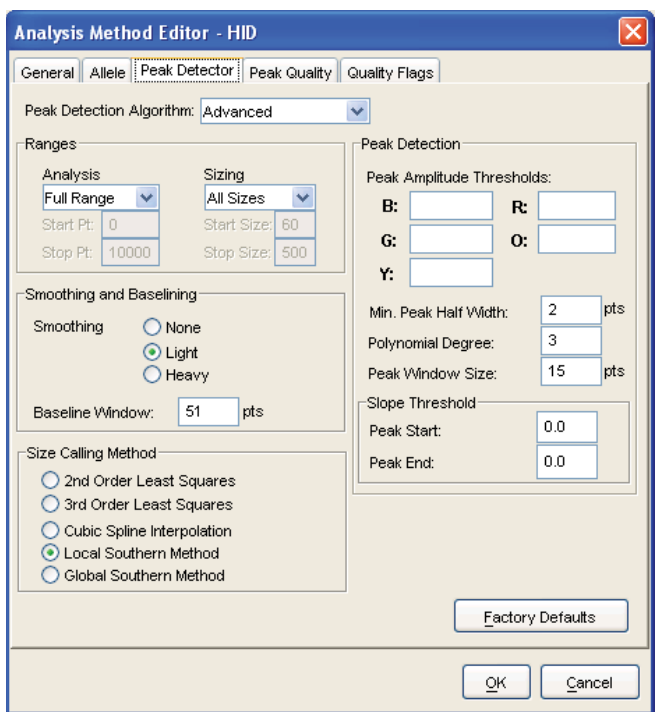

Figure 20. The GeneMapper® ID Peak Detector tab.
10. Select the Peak Detector tab (Figure 20). You will need to optimize these settings. In-house validation should be performed.
- Select the Peak Detector tab (Figure 20). You will need to optimize these settings. In-house validation should be performed.